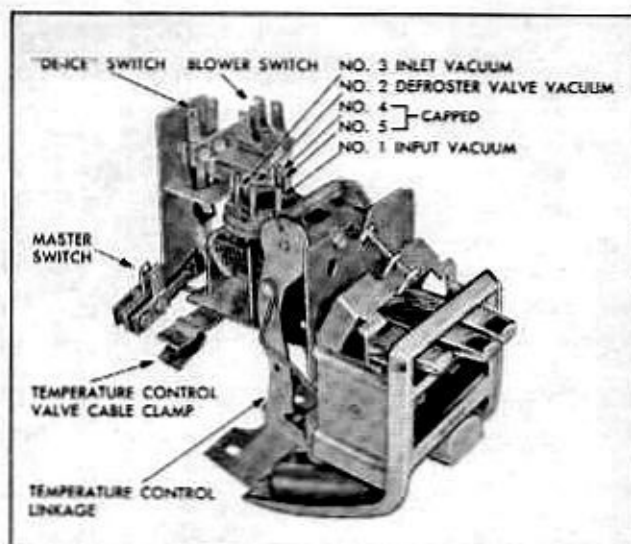

Fig. 1-21 Control Panel Switch Identification
2. Remove two nuts securing heater master switch and remove switch (Fig. 1-21).